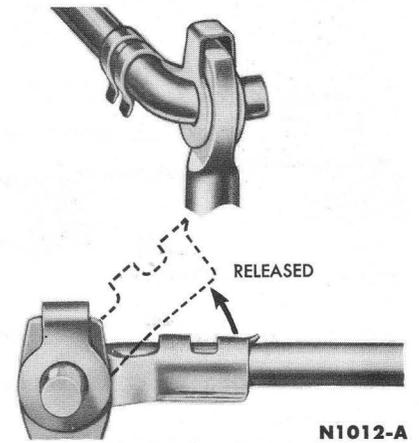

FIG. 6—Typical Remote Control Link Removal
3. Working through the access hole, disconnect the remote control link at the remote control (Fig. 6).